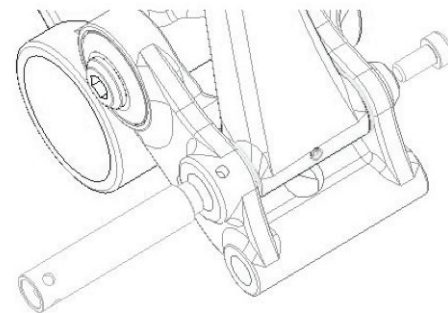

Fig. 11
3. Install the Equilink. The link is not symmetrical so it can't be installed in the wrong direction. Slide the ends of the link, along with the press in polymer washers, into the lower link and then between the shock links. Insert the Equilink Axles. Your rebuild kit may include 2 lower Equilink axles. The easiest way to determine which axle your bike requires is to simply match your old axle to the correct length new axle. If you lost or damaged your old axle please refer to the parts list below to determine which axle you will need. If needed, there are "key" holes that can be aligned to help hold the Axle from spinning while tightening the fixing bolts. See Fig. 11. Tighten to the torque indicated on the link.
6. Reconnect the dropout pivots. Insert the reducer spacers (item #21 in Fig. 11) into the bearings in the dropouts and slide the seat stay clevises over the bearings and spacers. Insert the bolt, with washer, from the outside of the frame through the bearings and into the clevis nut that presses into the inside (wheel side) of the clevis.